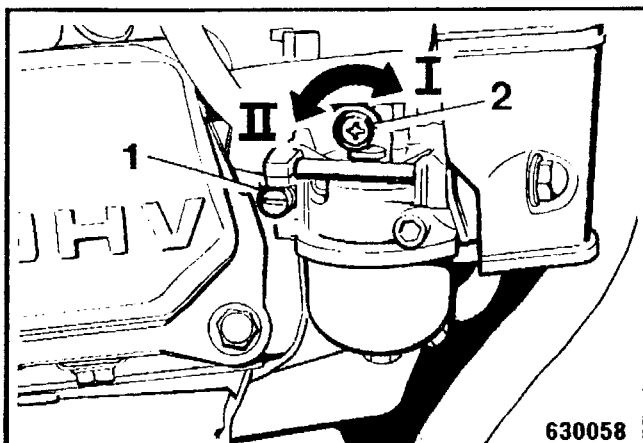

Fig. 1
- Turn the mix control screw 1 (Fig. 1) to the end stop, until it bottoms lightly.